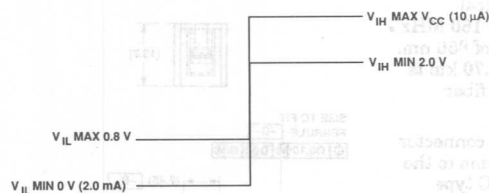

Figure 15. Transmit Clock Receiver Levels.
9. Figure 15 shows the receive levels for the Transmit Clock.